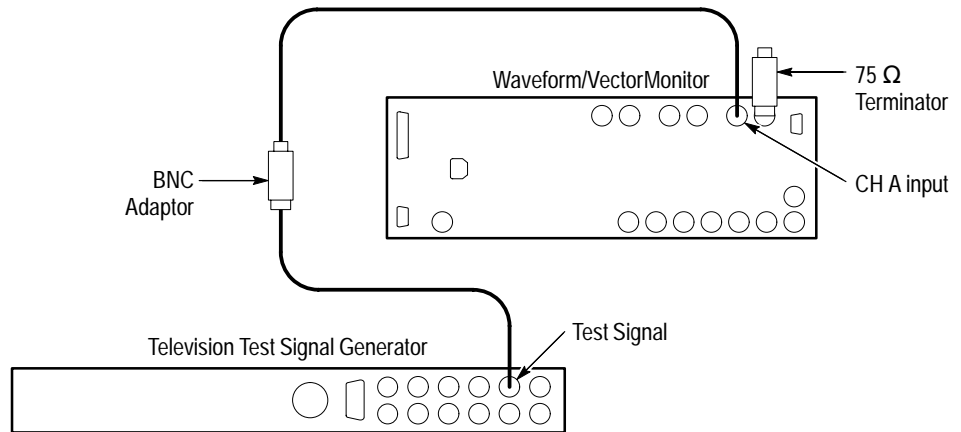

Figure 6-4: Equipment connections for gain adjustments
1. Connect the test signal generator to the CH A input of the waveform/vector monitor with two 75 Ω coaxial cables and a female-to-female BNC connector as shown in Figure 6-4. Terminate the remaining side of the monitor loop-through with a 75 Ω terminator.